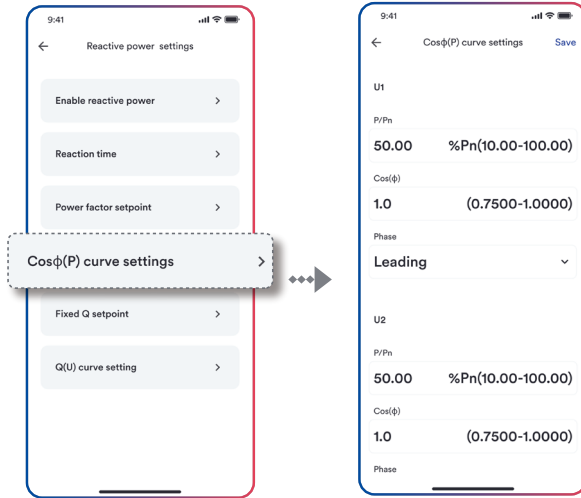

Figure 31. Cos(φ) curve settings
Cos (P) curve settings is as shown in Figure 31: